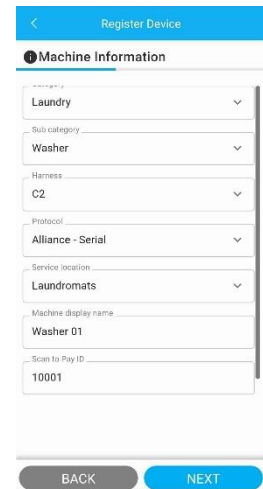

Figure 12
- a. The **Machine Information** page will populate (**Figure 12**).